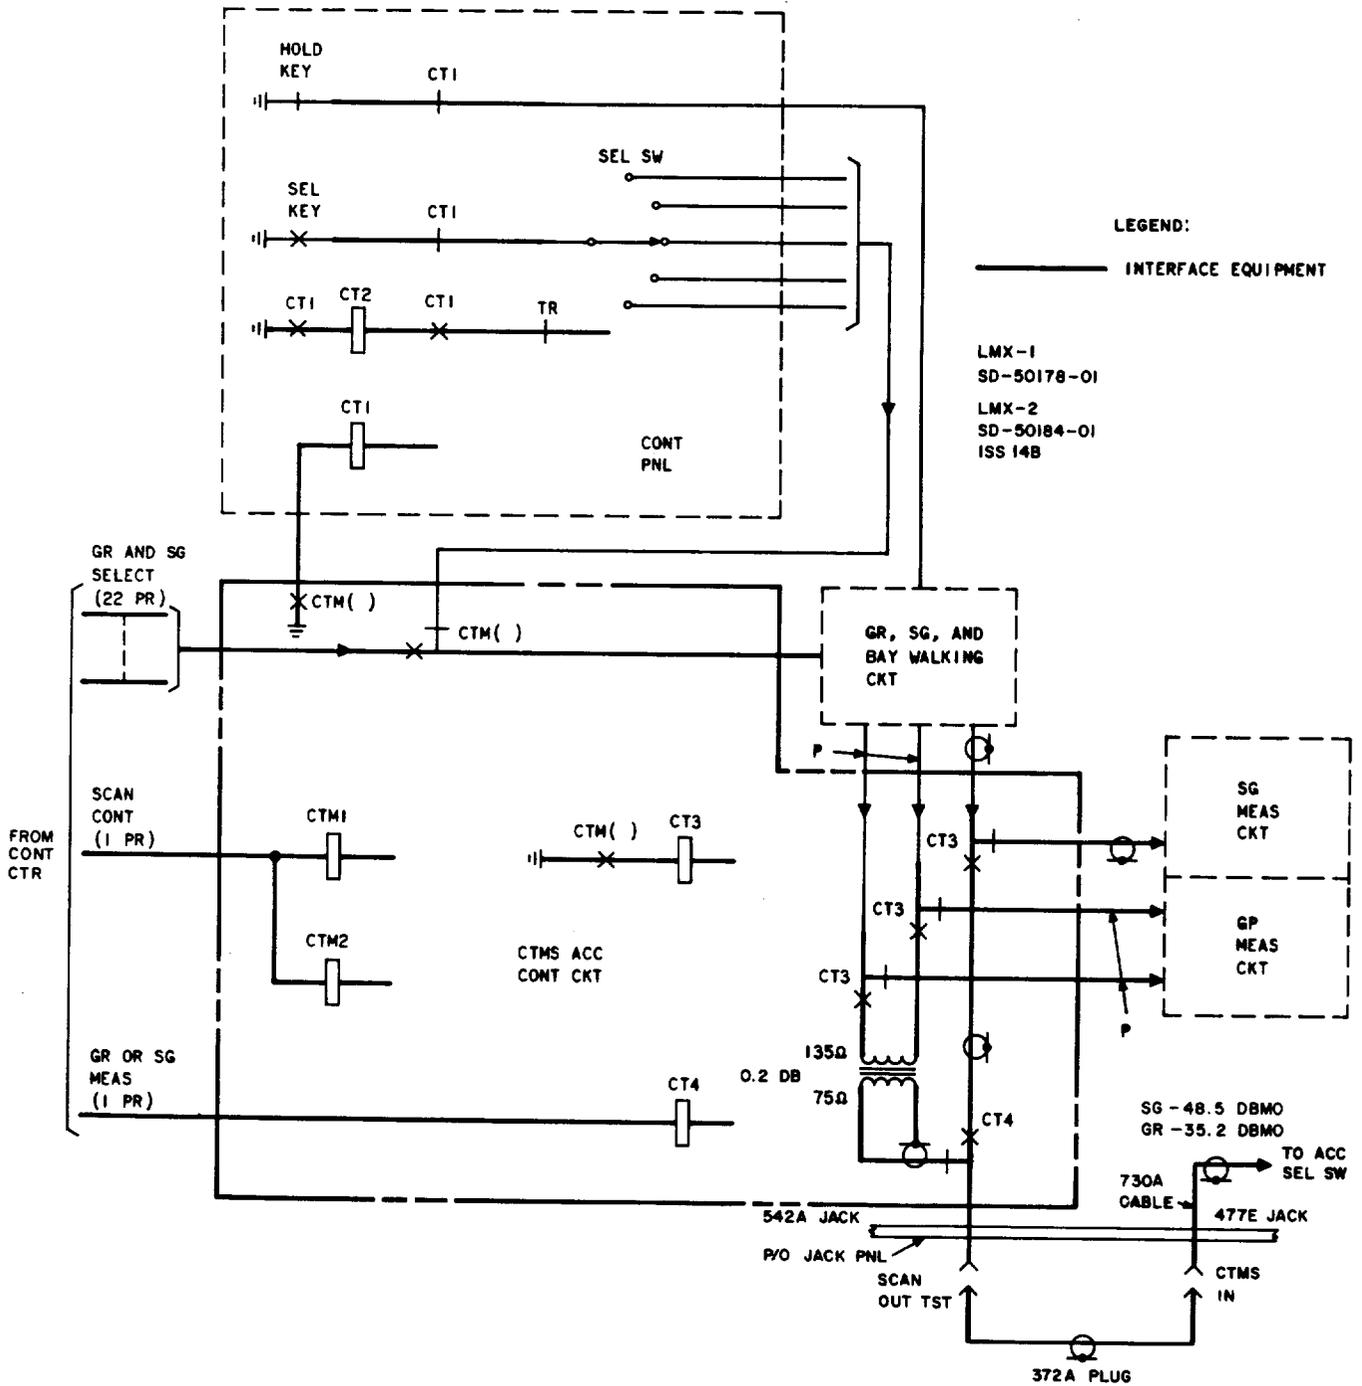

Fig. 1—LMX-1 and LMX-2 Scanner Access Circuit
**2.01** The access circuit used to feed signals from the scanner to the CTMS control center for measurement is shown in Fig. 1.